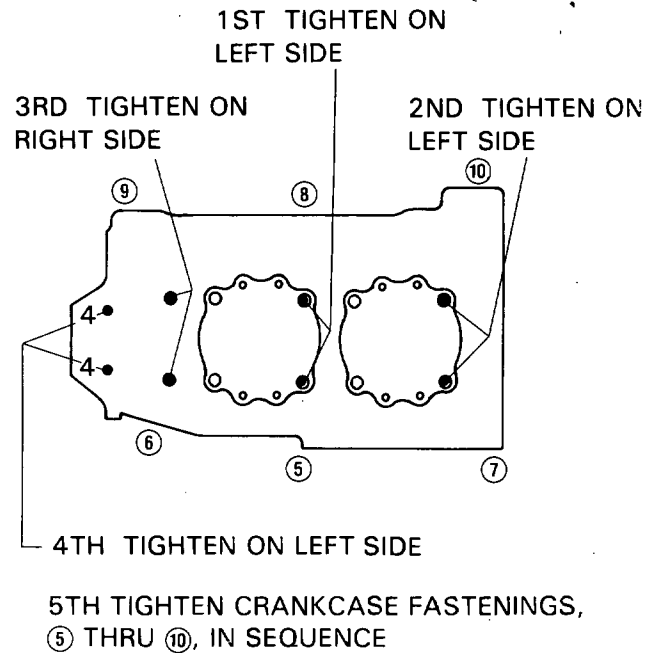

Figure 3. Left Side of Crankcase
c. Four Cylinder Engines, Wide Cylinder Flange — "76" Series (See Figure 3).